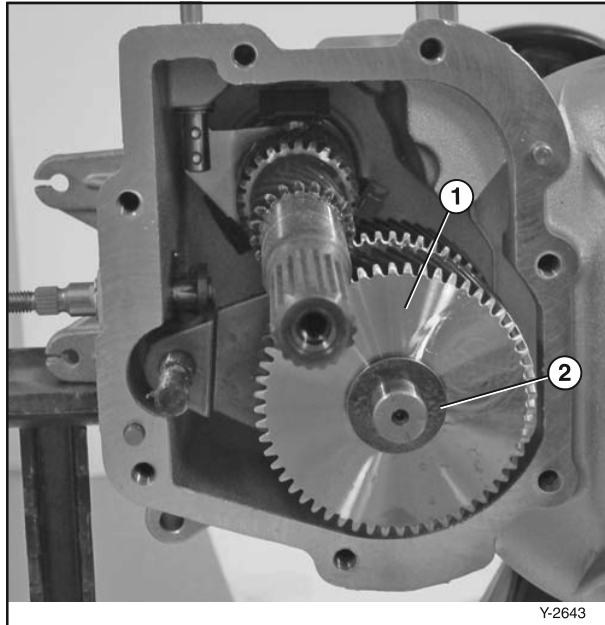

Figure 6-47
15. Remove the washer (Figure 6-47, (2)) and the reverse gear (Figure 6-47, (1)) from the countershaft.